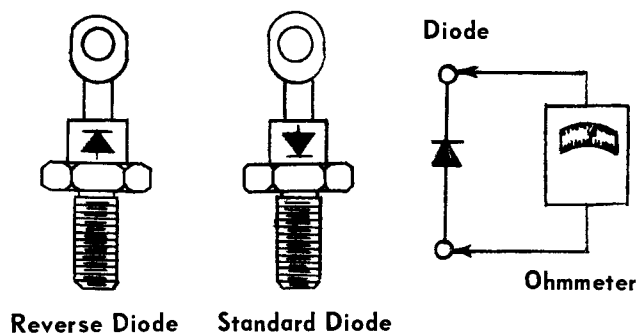

Figure 4-1 Testing Rotating Rectifiers With An Ohmmeter
- Refer to figure 4-1, then connect ohmmeter leads across diode (rectifier) in one direction. Note meter reading. Reverse leads and note meter reading. The meter should indicate a low resistance (under 1000 ohms) in one direction and a high resistance (1 megohm to infinity) in the other direction.
4.8.1 If an ohmmeter is not available, field rectifiers (diodes) may be tested with a test lamp consisting of standard flashlight batteries and a flashlight bulb as shown in figure 4-2. Refer to figure 4-1 for identification of diode cathode and anode and then test as follows: